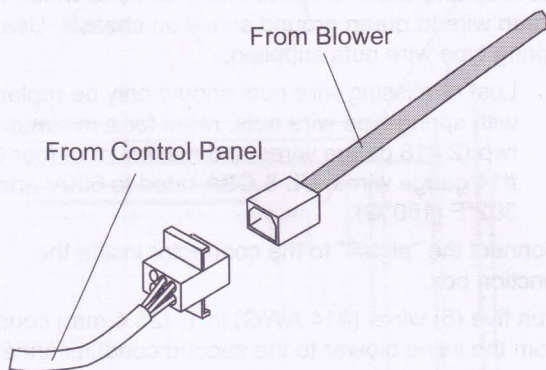

Figure 19: Wiring the Hood with an Integral Blower
3. Connect the blower's Molex plug connector to the connector present inside the hood, as shown in Figure 19.
- Lost or missing wire nuts should only be replaced with spring type wire nuts rated for a minimum of two (2) #18 gauge wires and maximum of four (4) #14 gauge wires, UL & CSA rated to 600V and 302°F (150°C.)